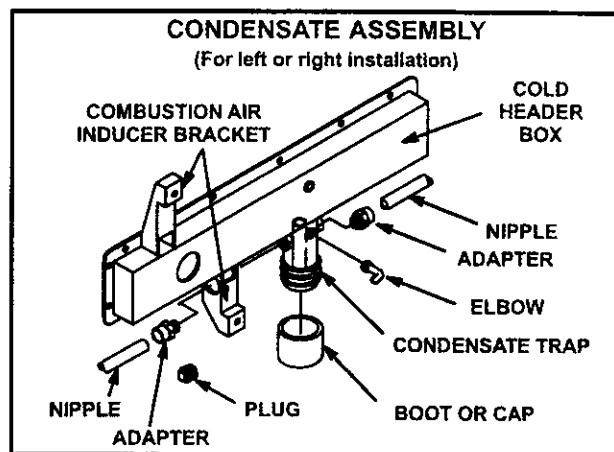

FIGURE 21
- 2 - Connect 1/2 inch (13 mm) plastic pipe plug (provided) in the unused end of the condensate trap. Install plug so that it is sealed water tight yet able to be removed. Do not permanently seal the connection. Teflon tape is recommended to seal joint. See figure 21.